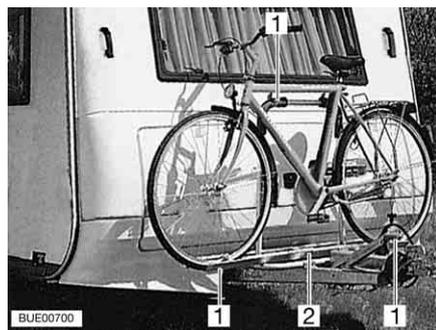

Fig. 14 Front bike rack
- Put the bikes on to the bike rack (Fig. 14,2) and secure them with quick straps (Fig. 14,1).